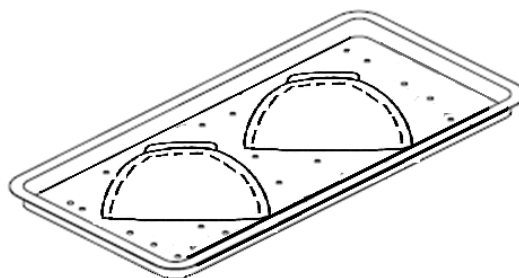

Figure 6
9. Round pans, trays, pots pan, etc., should be opening upside down as shown in Figure 6.